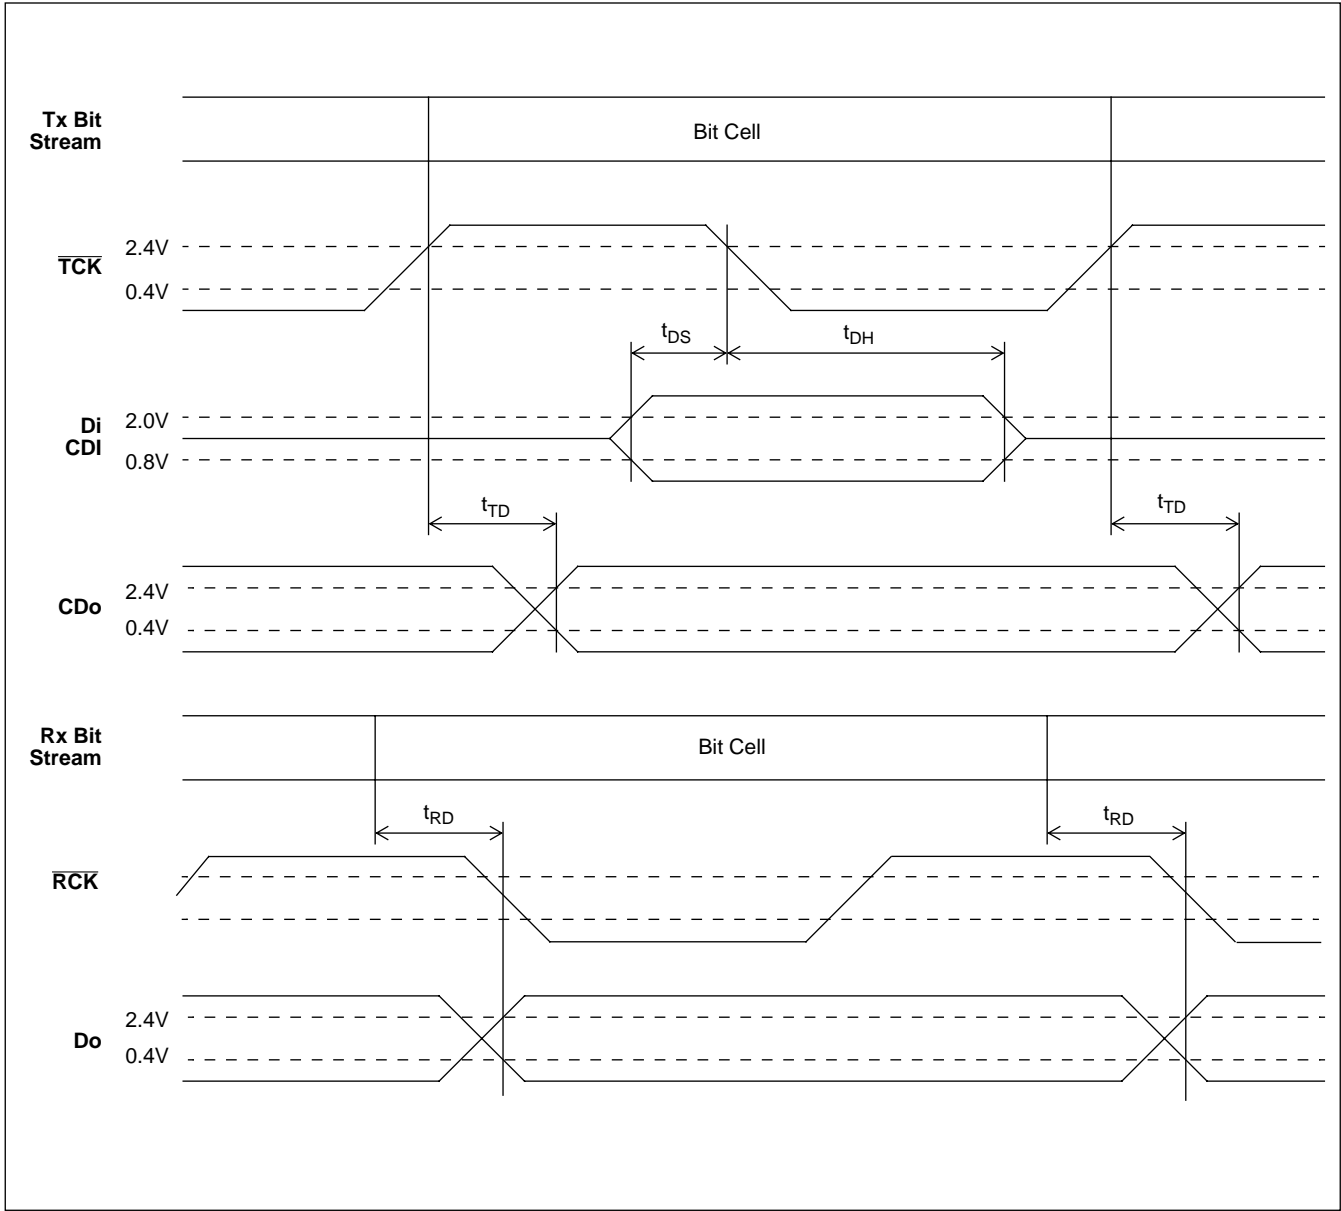

Figure 20 - Data Timing for Master Modem Mode
**AC Electrical Characteristics† - Data Timing - MOD Mode (Figure 20)**